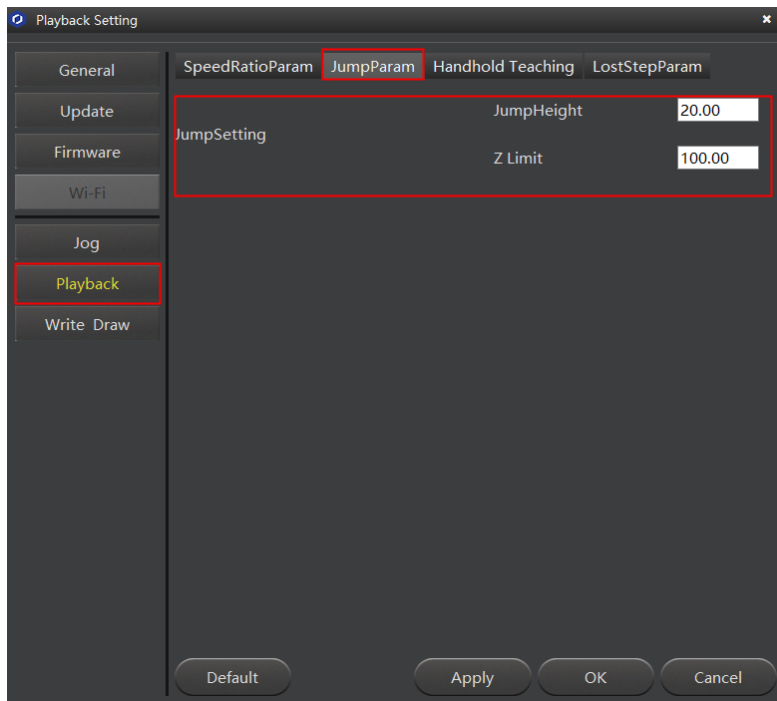

Figure 5.27 Jump parameters
2. Set the lifting height (**JumpHeight**) and the maximum lifting height (**Z Limit**) by selecting **Setting > Playback > JumpParam**, as shown in Figure 5.27.